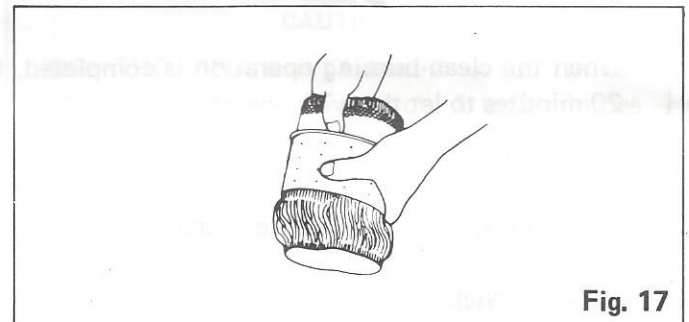

Fig. 17
8. Pull the old wick out of the wick holder. (Fig. 17)